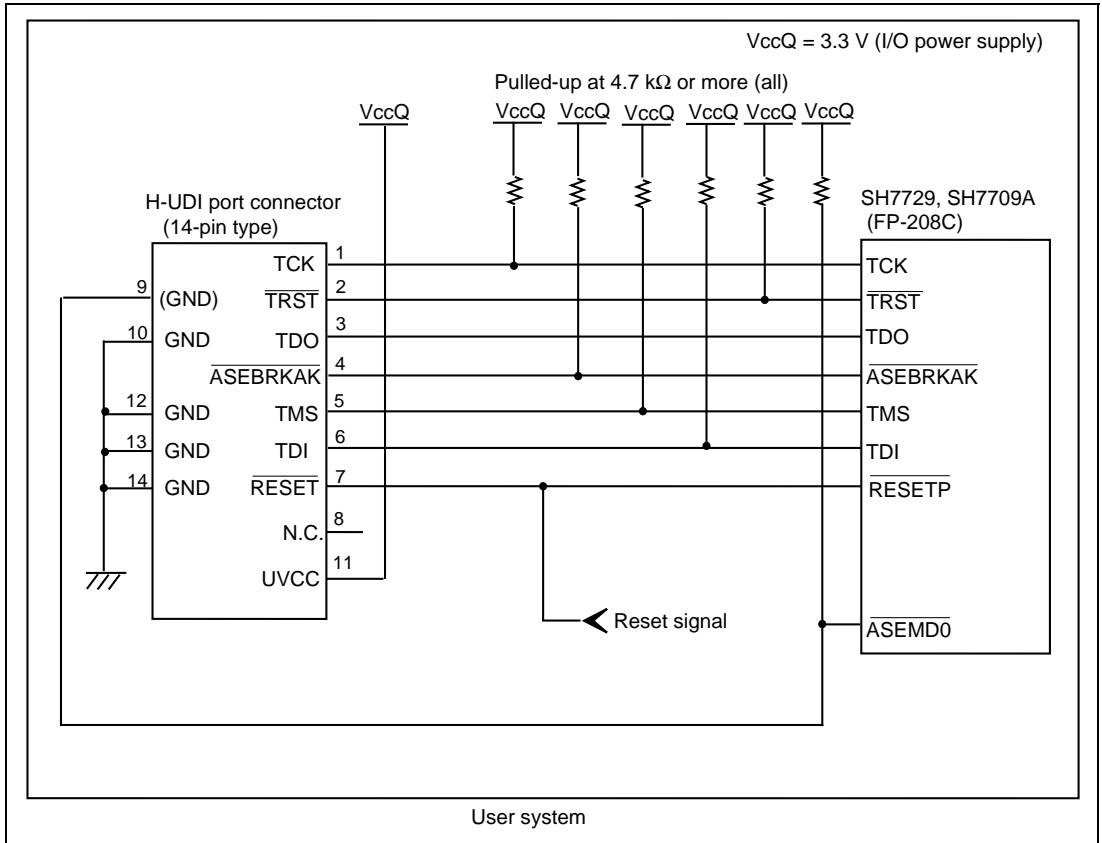
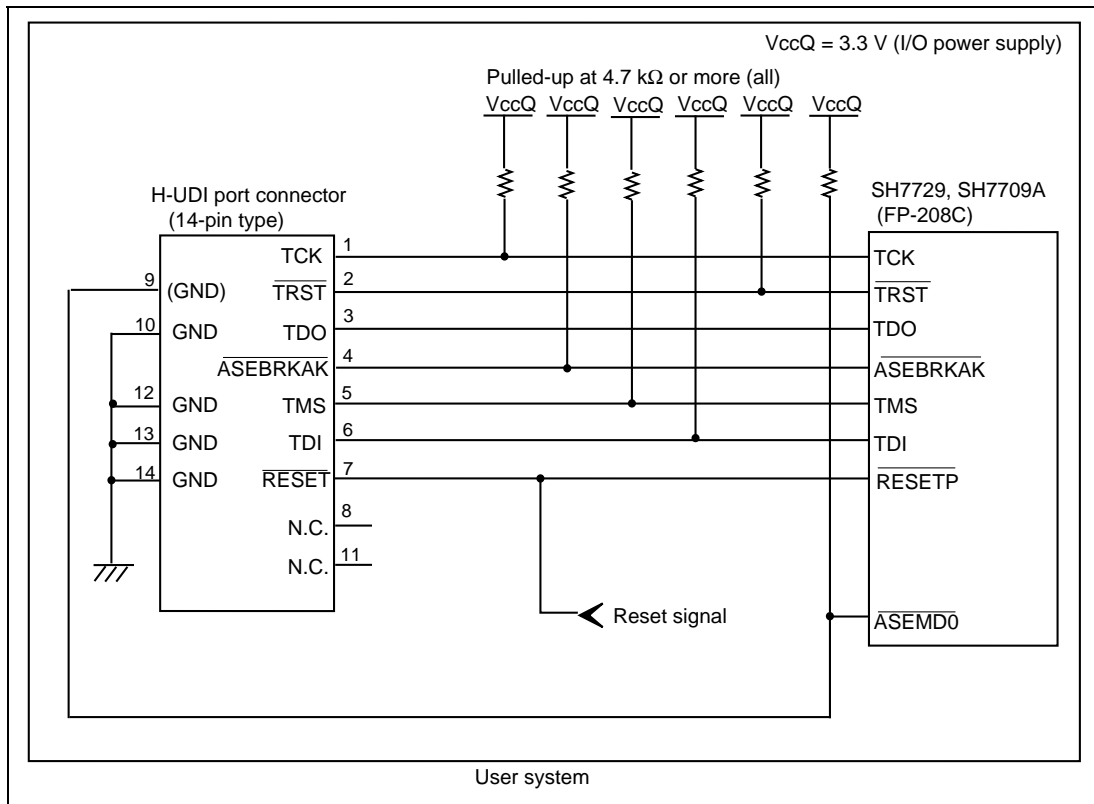

Figure 1.5 Recommended Circuit for Connection between the H-UDI Port Connector and MPU when the Emulator is in Use (14-Pin Type UVCC Connected)
Figure 1.6 Circuit for Connection between the H-UDI Port Connector and MPU when the Emulator is in Use (14-Pin Type UVCC Not Connected*)
Figure 1.5 shows a recommended circuit for connection between the H-UDI and AUD port connectors (14 pins) and the MPU when the emulator is in use. Figure 1.6 shows a circuit for connection when UVCC is not connected.
(1) When the emulator is used: $\overline{\text{ASEMD0}} = 0$ (ASE mode)
(2) When the emulator is not used: $\overline{\text{ASEMD0}} = 1$ (normal mode)
Figures 1.5 and 1.6 show examples of circuits that allow the $\overline{\text{ASEMD0}}$ pin to be GND (0) whenever the emulator is connected by using the user system interface cable. When the $\overline{\text{ASEMD0}}$ pin is changed by switches, etc., ground pin 9. Do not connect this pin to the $\overline{\text{ASEMD0}}$ pin.
5. When the power supply of the user system is turned off, supplying VccQ of the user system to the UVCC pin reduces the leakage current from the emulator to the user system. A level shifter that is activated by the internal power supply or user power supply (changed by the switch) is installed in the interface circuit of the emulator. If the user power is supplied to the UVCC pin, the level shifter is not activated as long as no user power is supplied. When the power supply of the user system is turned off, no current flows from the user interface. The I/O voltage level of the user system interface can be the same as that of the VccQ. To operate the emulator with low voltage (lower than 3.3 V), the VccQ must be supplied to the UVCC pin. Make the emulator's switch settings so that the VccQ will be supplied (SW2 = 1 and SW3 = 1) (as shown in figure 1.5).
6. The resistance values shown in figures 1.5 and 1.6 are recommended.
When the circuit is connected as shown in figure 1.5, the switches of the emulator are set as SW2 = 1 and SW3 = 1. For details, refer to section 3.8, Setting the DIP Switches, in the Debugger Part of the SuperH™ Family E10A-USB Emulator User's Manual.
When the circuit is connected as shown in figure 1.6, the switches of the emulator are set as SW2 = 0 and SW3 = 1. For details, refer to section 3.8, Setting the DIP Switches, in the Debugger Part of the SuperH™ Family E10A-USB Emulator User’s Manual.